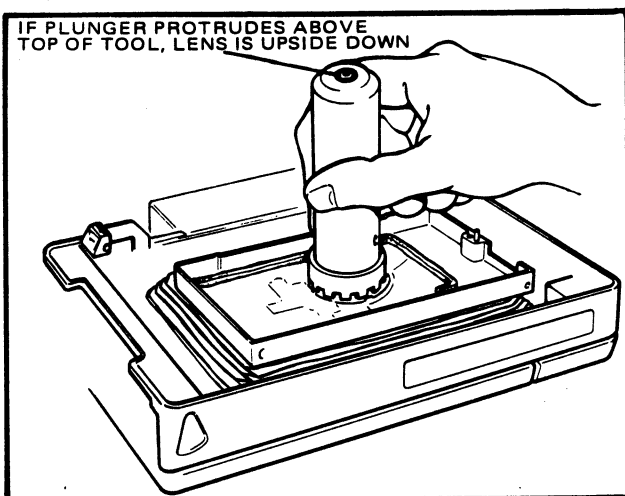

FIG. 5.18 REMOVING REAR LENS - METAL SHUTTER HOUSING
2. Insert tool #169456 over the lens retainer and twist gently until the retainer is free (Figure 5-18).
1. Insert the new rear lens in the casting so the heavier convex side is positioned toward the bellows. This can be checked by positioning tool #169456 over the lens and checking to see if the plunger protrudes above the top of the tool (Figure 5-18). If the plunger does protrude, the lens is inserted upside down.
1. Insert the new rear lens in the housing so the heavier convex side is facing down. This can be checked by positioning tool #169456 over the lens and checking if the plunger protrudes above the top of the tool (see Figure 5-18). If the plunger protrudes, the lens is inserted upside down.